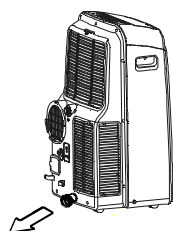

Fig. 22
- When the water level of the bottom tray reaches a predetermined level, the unit beeps 8 times, the digital display area shows "P1" . At this time the air conditioning/dehumidification process will immediately stop. However, the fan motor will continue to operate(this is normal). Carefully move the unit to a drain location, remove the bottom drain plug and let the water drain away(Fig.22). Reinstall the bottom drain plug and restart the machine until the "P1" symbol disappears. If the error repeats, call for service.
- Remove the plug from the bottom drain outlet, all the water in the bottom tray would drain out (See Fig.22).